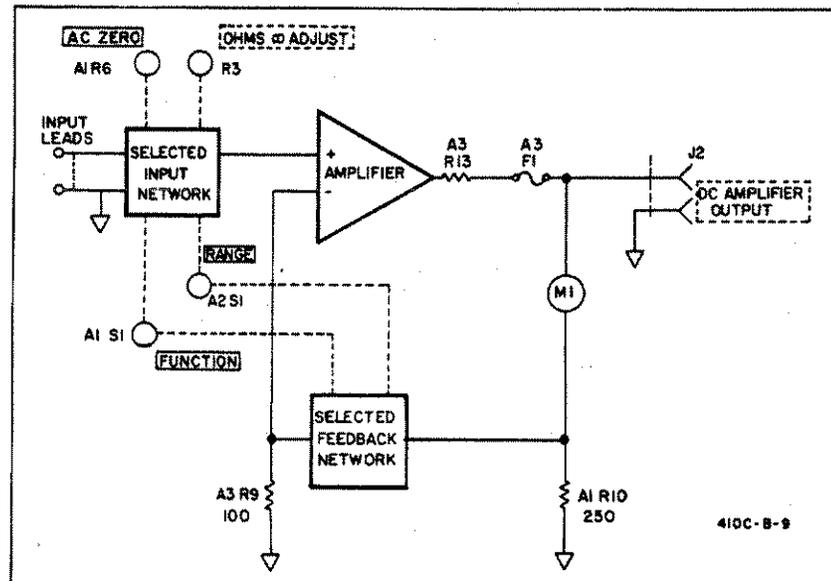

Figure 4-1. Block Diagram, Model 410C.
4-1. GENERAL DESCRIPTION (FIGURE 4-1).
4-2. The -hp- Model 410C Analog Voltmeter is comprised of four basic blocks: (1) the Input Switching and Attenuator Network, (2) a FET Input Amplifier, (3) Meter and Feedback circuit, and (4) the Power Supply. Figure 4-1 is a basic block diagram of the Model 410C.
4-8. The amplifier in the Model 410C consists of a FET differential pair (Q1) and a low drift op amp (U1). The FET input circuit ensures that the input impedance of the amplifier is approximately 10^{12} ohms. The amplifier operates in the non-inverting mode with the feedback network (connected to inverting input) setting the gain of the amplifier (see Figure 4-1). The output of the amplifier drives meter M1 and is also applied to the DC AMPLIFIER OUTPUT connector (J2) located on the instrument's back panel.